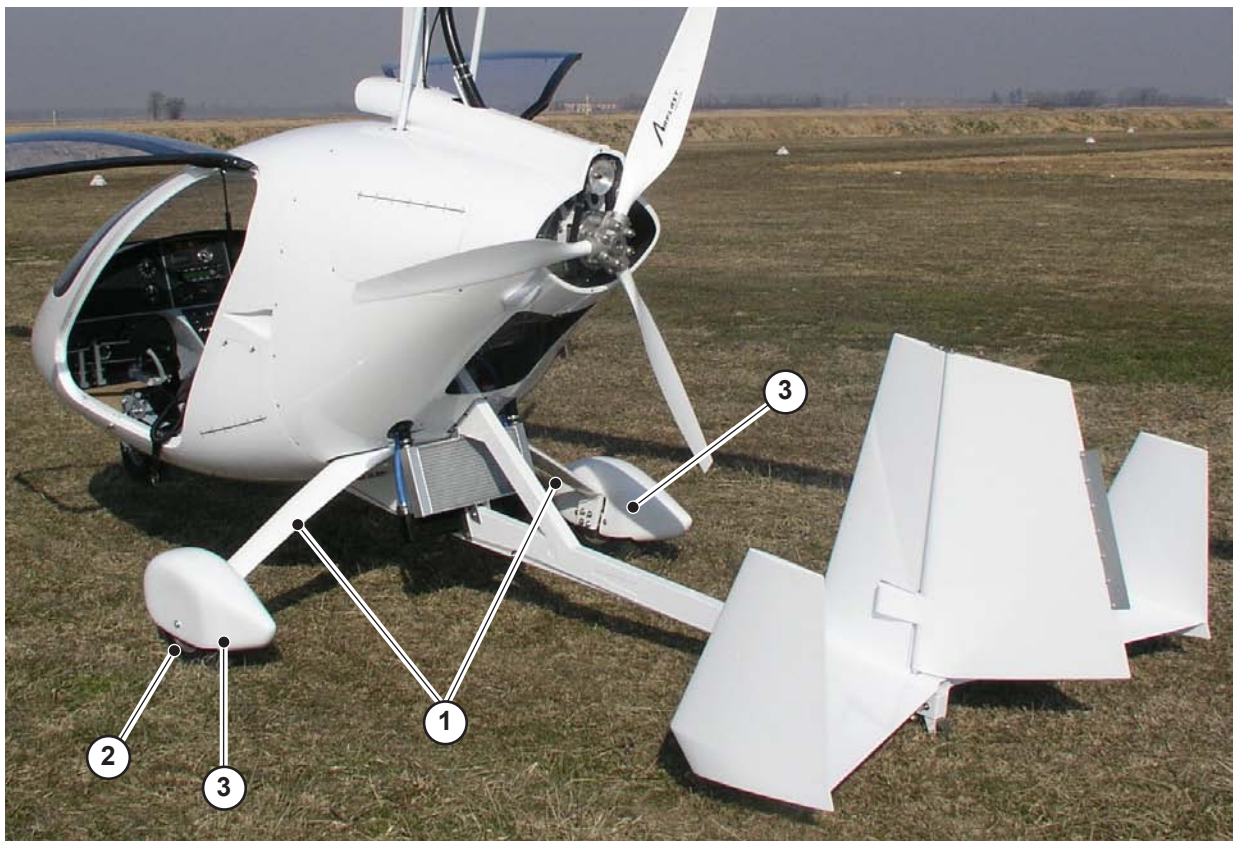

Fig. 14
25. UNDERCARRIAGE, LEFT HAND SIDE (Fig.14)
26. WHEEL AND WHEEL PANT , LEFT HAND SIDE (Fig.14)